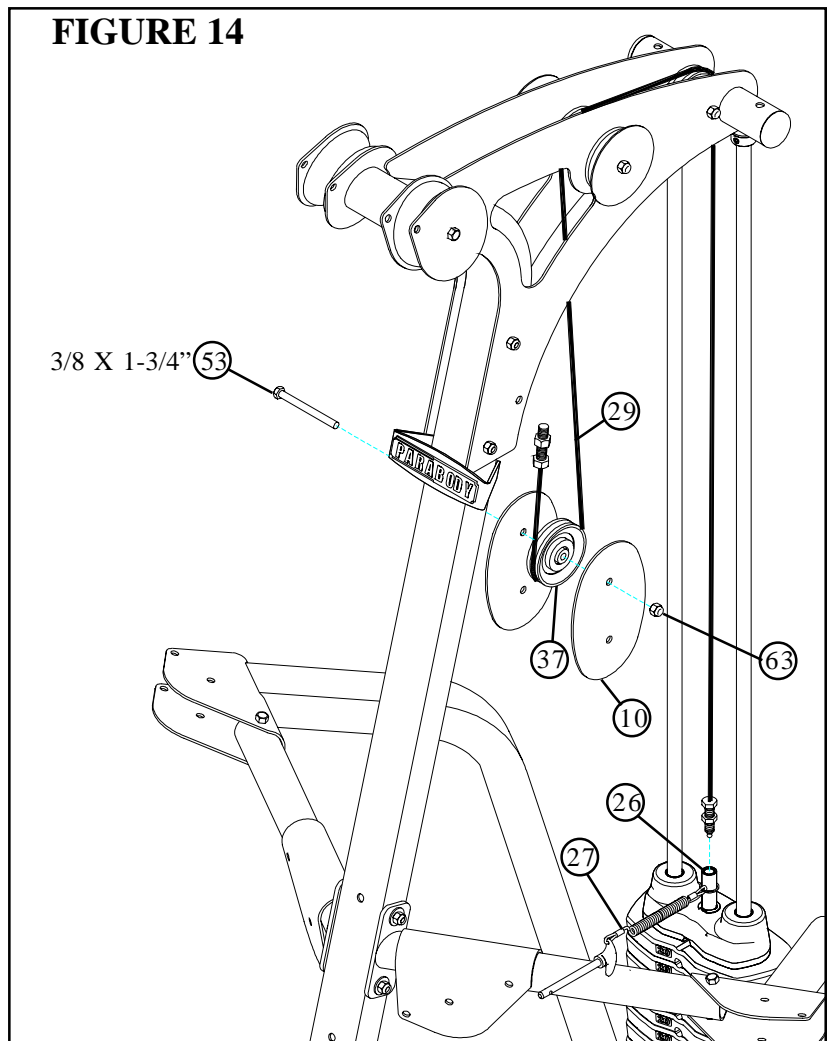

FIGURE 14
- Assemble the WEIGHT STACK PIN (27) to the WEIGHT STACK SHAFT (26) as shown in FIGURE 14.
- Screw the long threaded end of the WEIGHT STACK CABLE (29) into the end of the WEIGHT PLATE SHAFT (26) .See FIGURE 14.
- Route the WEIGHT STACK CABLE (29) around the pulleys in the BOOM PLATES (14 & 15) as shown in FIGURE 14. **(NOTE: Make sure the cable runs in the grooves of the pulleys.)**
- Assemble two PULLEY PLATES (10) around one 3-1/2" PULLEY (37) using one 3/8 X 1-3/4" BOLT (53) and one 3/8" LOCK NUT (63) as shown in FIGURE 14. **(Note: Loop the CABLE around the PULLEY prior to assembling the PULLEY PLATES.)**